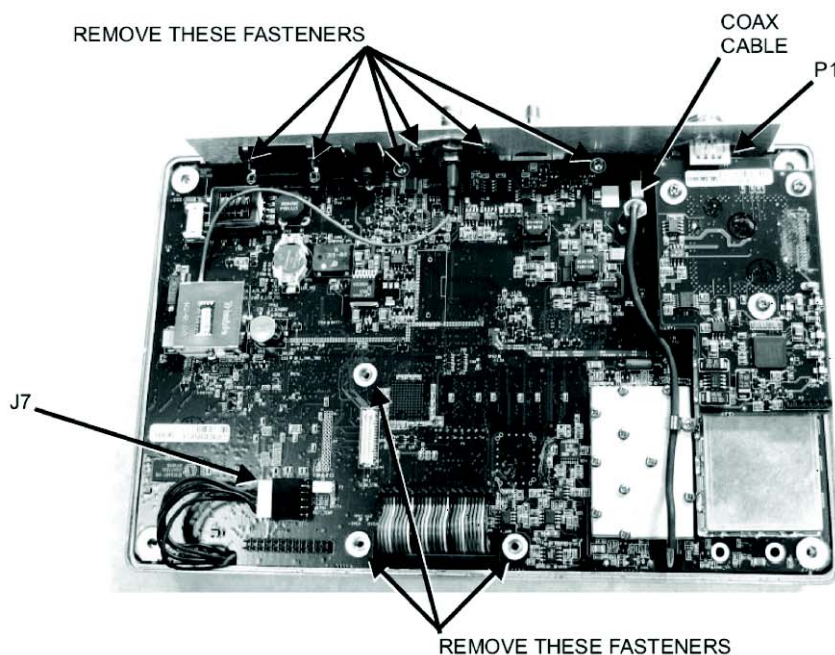

Figure 3-10. Main/RF PCB Assembly
3. Disconnect the semi-rigid coaxial cable from the RF PCB, as indicated in Figure 3-10 below.